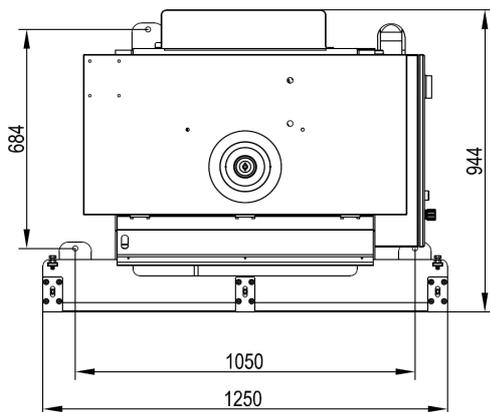

Fig.10
Foundation plan (Fig.10)
**Floor required:** (See Fig.10)
The floor must have enough loading strength for the machine weight and should be flat and level. If necessary, fix the machine to the floor with three bolts according the foundation plan (Fig.10).